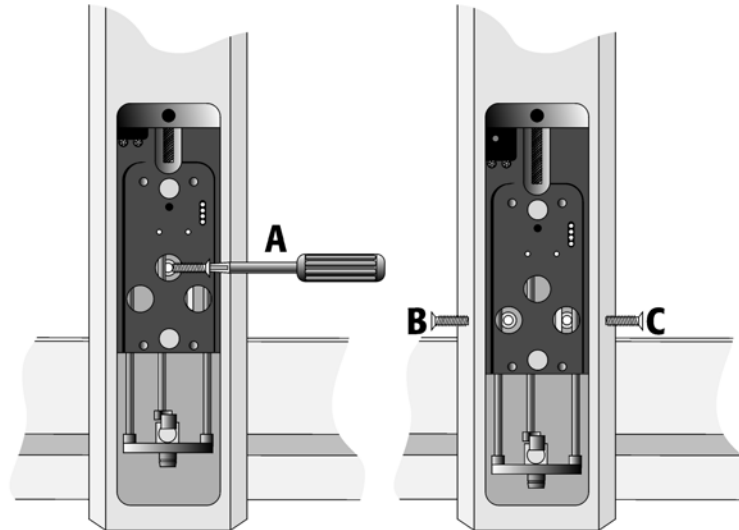

Figure 9. Inserting the Injection Unit Mounting Torx Screws
- 4 Locate the three large holes in the black anodized frame attached to the Z Crossrail inside the Injection Unit. Slide the frame upwards until the top hole is centered on the top threaded hole in the end of the Y Crossrail. Insert and securely tighten the Torx screw **A** (see Figure 9).